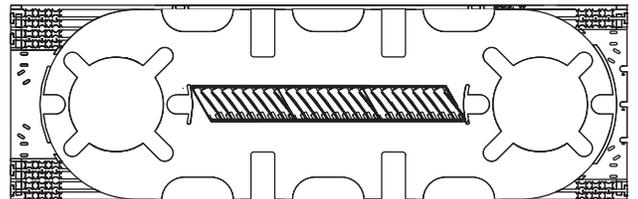

Figure 3
- For mechanical splices, install the three (3) eight position plastic organizers by peeling off the backing and placing the plastic organizer in the recess in the center of the tray (Figure 3).